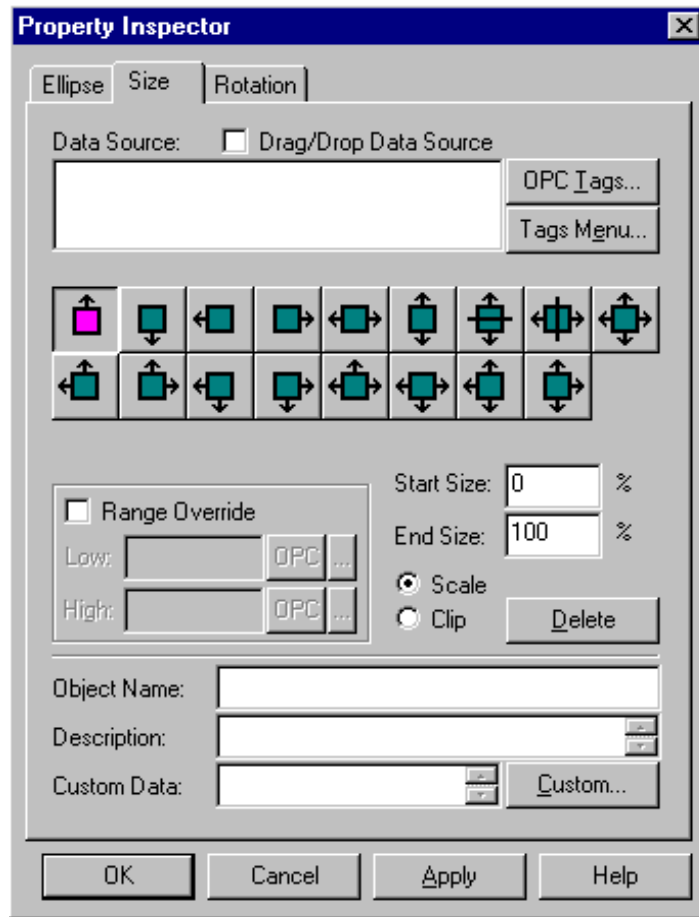

Figure 11-3: Property Inspector Dialog Box - Size Tab
2. On the Dynamics menu, select Actions > Size. The Property Inspector appears with the Size tab (Figure 11-3).